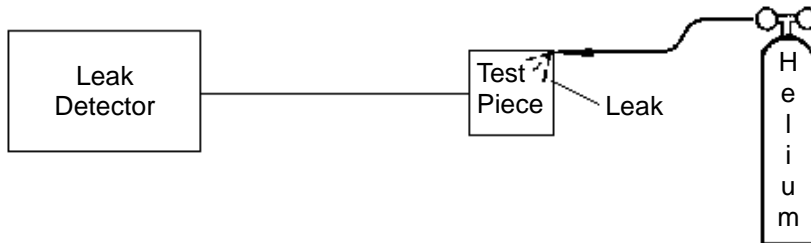
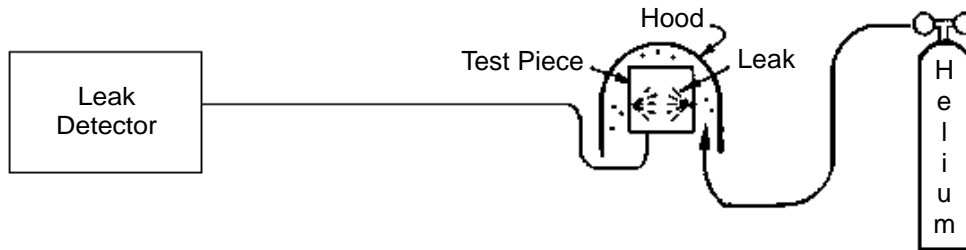

Figure C-1a Test Piece Evacuated: Tracer Probe Used to Locate Leak
Figure C-1b Test Piece Evacuated and Hooded with Helium Atmosphere to Determine Overall Leak Rate
C.6.1 Test Piece Evacuated (Figure C-1a and Figure C-1b)